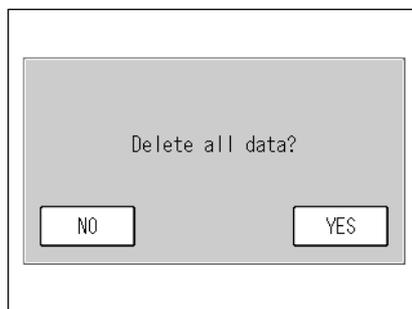

Fig. 63 Message confirming data deletion
- [DELETE]: Displays the message confirming data deletion (Fig. 63 on page 51). This button is hidden when the keys are locked.